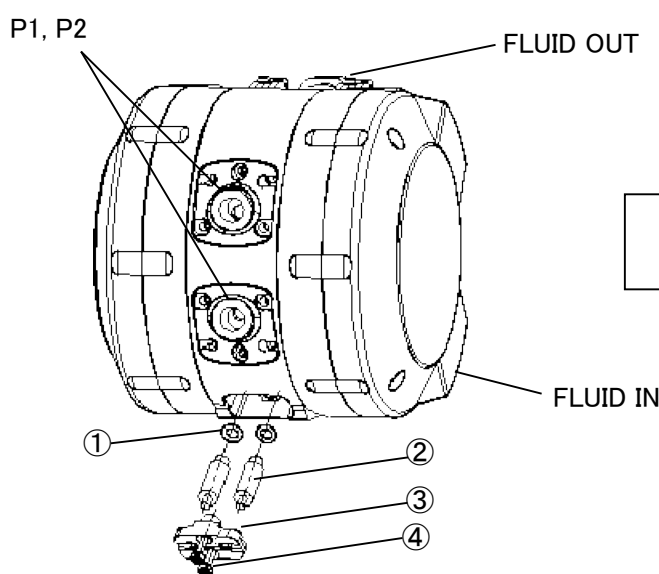

Fig. 1
1. Remove the round head Philips screws below the AIR SUP port of the pump. Then, remove the leakage sensor cover, plug, and O-ring (Fig. 1). The O-ring, leakage sensor cover, and round head Philips screws are used again later. Do not throw them away.